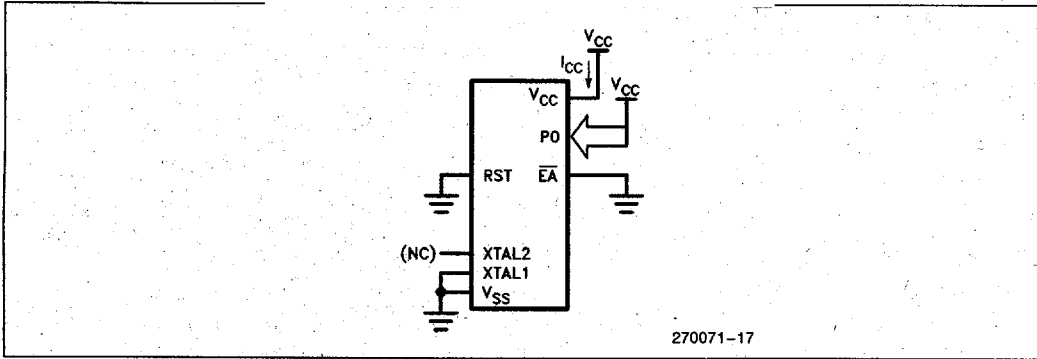

Figure 8. I_{cc} Test Condition, Power Down Mode. All other pins are disconnected.
5. Power Down I_{CC} is measured with all output pins disconnected; XTAL1 = V_{SS} ; XTAL2 N.C.; Port 0 = V_{CC} ; $\overline{EA} = \overline{RST} = V_{SS}$ (see Figure 8).